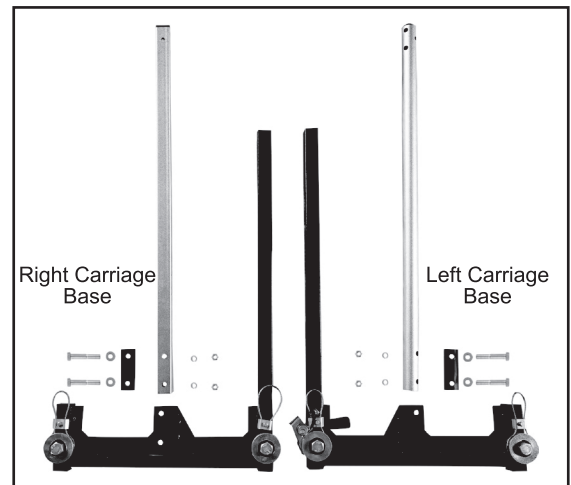

Fig. 17
Step 11: Assemble the Carriage Base. Lay out the Left and Right Carriage Base, as shown (Fig. 17), along with the Round and Square Support Tubes, Round and Square Tube Clamp Plates, four Long M12 Hex Head Shoulder Bolts, four M12 Flat Washers, four M12 Lock Washers, and Four M12 Nuts. The Round Support Tube is assembled on the Left Carriage Base (the one with the Carriage Brake, and on the same side as the Carriage Wheels). Use two Long M12 Hex Head Shoulder Bolts with washers and nuts to mount the Round Support Tube, with the Round Clamp Plate and nuts on the same side as the Carriage Wheels.